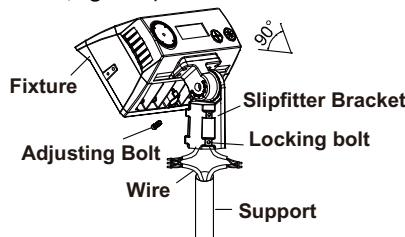

figure 6
- Step 1: Connect the wire correctly and put the wire into pole. Then fasten the locking bolts between slip fitter and the pole. (Figure 6)
- Notice: Adjustable angle is +/-90° ( Figure 6)